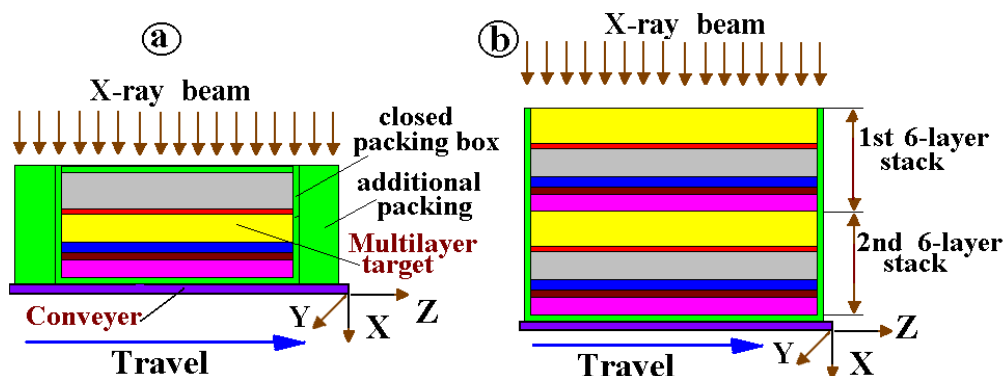

Fig. 7. Geometrical models of multi-layer targets placed on moving conveyor and irradiated by normally incident X-ray beam.
• Multi-layer target consists of some identical packages with flat sheets of materials with various density and atomic number. (See Figs.7 and 8).
- **The number of layers** (flat sheets of materials with various density and atomic number) in the each package are in the range from **1 to 6**. (See Figs.7 and 8)
- The **flat sheets of Multi-layer target** can be located on the conveyer platform **horizontal or vertical** relatively incident X-ray axis. (See Figs. 7 and 8).
Note. In any layer positions under X-ray irradiation, axis coordinates **X, Y, and Z** are hard connected with **width (X), length (Y), and thickness (Z)** of target layers (See Figs. 7 and 8).